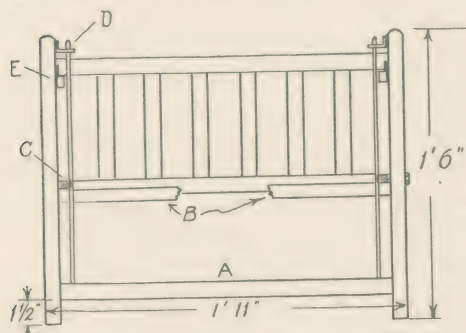

Fig. 1—Details of the long sides
**T**HIS good-sized model cot would give pleasure to any young girl as it is a replica on a small scale of the real thing. It would look nice made in oak, or stripwood, but could be made in deal if a cheaper material is desired. The dimensions and general construction will be gathered from Figs. 1 and 2.
All necessary dimensions can be got from Figs. 1 and 2, showing a front and side elevation, while details of interior construction will be gathered from Fig. 3.
Figs. 1 and 2—Front and side view with dimensions
The table top is made in two halves, as in Fig. 1, which shows both halves extended. If plywood is used for these the edges should be masked with a moulding or plain slip, glued and pinned round.